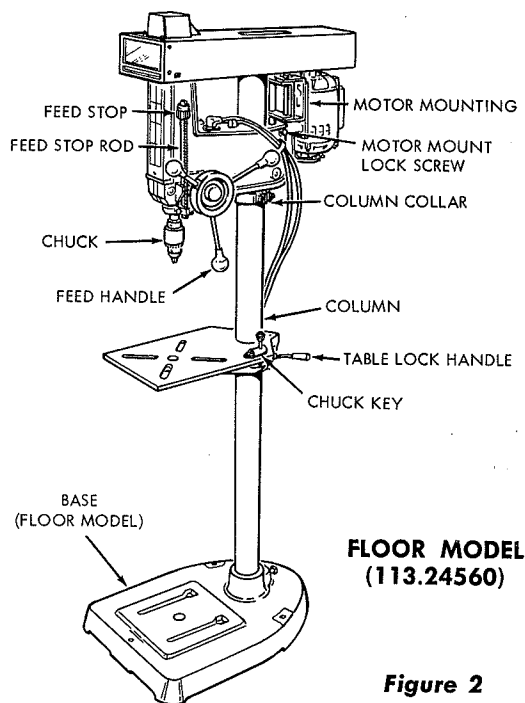
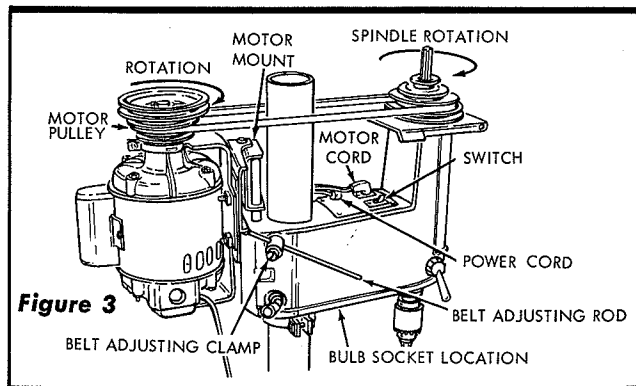
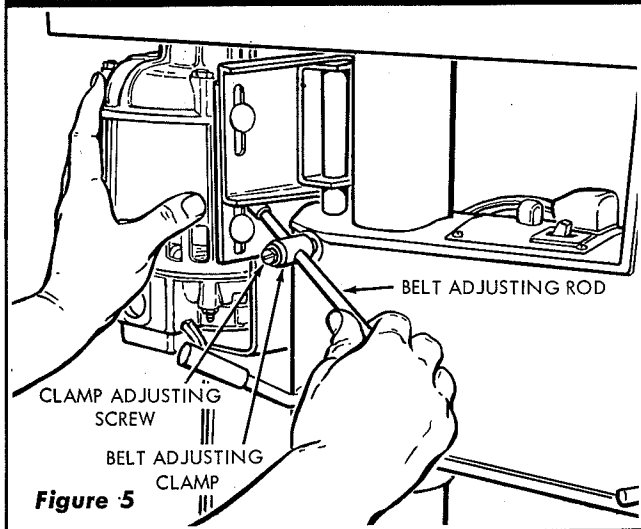

Figure 2
Figure 3
Figure 5
3. Loosen the table lock handle (figure 2) and raise the table to a position approximately eight inches below the frame. Tighten the table lock handle.
6. To install motor, loosen the motor mount lock screw, at right rear of frame, (figures 2 and 4) and remove the motor mount assembly. (See figure 3.) Fasten the motor to the motor mount assembly with the hardware supplied, but **DO NOT TIGHTEN HARDWARE.** (Motor bolt nuts to be on motor side, as shown.)
10. Install the belt adjusting clamp (figure 3) into the tapped hole provided in the left side of the frame. Push the belt adjusting rod tip on one end of the belt adjusting rod and slide rod into the belt adjusting clamp. With belt properly tensioned ($3/8$ -inch to $1/2$ -inch movement inward when pushing on outside of belt with average finger pressure) slide the adjusting rod to contact motor mounting assembly, and tighten clamp adjusting screw. (See figure 5.) Refer to "BELT TENSION" under "ADJUSTMENTS."
11. Install a 60-watt incandescent bulb in the socket provided and plug the motor cord into the outlet on the frame. (See figure 3.)
- 8. Motor Mounting.** The motor mount is designed with a double hinge arrangement in order to make changing of spindle speeds easy and rapid. In addition, a quick-type belt adjusting rod has been provided, which will, in effect, provide a solid motor mount and maintain proper belt tension when the drill press is operating. (See figure 5.) To move the belt from one pulley groove to another, disengage the rod, pivot motor forward and slip belt into desired groove. Engage the rod with the rubber tip under the rib welded to motor mount.
This adjustment is made by loosening the lock screw on the belt adjusting rod and sliding the rod rearward. (See figures 5 and 14.) Excessive tension shortens bearing life, causes excessive belt wear and robs the motor of power. Tension should be just enough to prevent slippage at normal operating speeds and feeds. (Refer to paragraph 10 under "ASSEMBLY.")